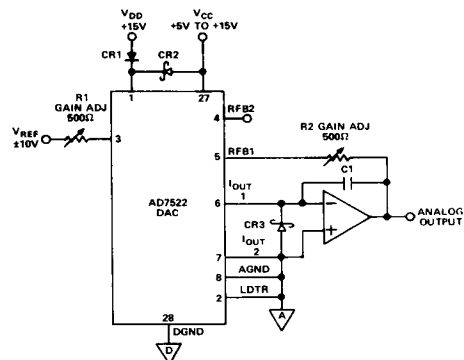

Figure 3. Unipolar Binary Operation
(Note: Protection Schottky CR3 in Figure 3 and CR3, CR4 in Figure 4 are not required when using TRI-FET amps such as the AD542 or AD544).
Figure 3 shows the analog circuit connections required for unipolar operation. The input code/output voltage relationship is shown in Table I.
1. CR1 and CR2 on Figures 3 and 4 protect the AD7522 against latch-up V_{CC} exceeds V_{DD} , and may be omitted if V_{DD} and V_{CC} are driven from the same voltage.
2. Diodes CR3 on Figure 3 and CR3 and CR4 on Figure 4 clamp the amplifier junction to -300mV if they attempt to swing negative during power up or power down. The input structures of some high-speed op amps can supply substantial current under the transient conditions encountered during power sequencing. It is recommended that the PC layout be able to accommodate the diodes.